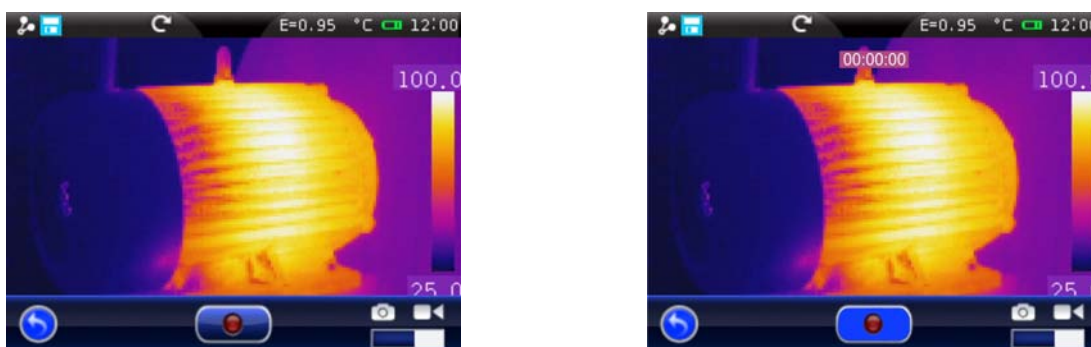

Fig. 64: IR video recording
1. Touch the icon “” in the general menu and move the icon “” to the right. The following screen appears (see Fig. 64 – Left side):
3. Touch the icon “” to start recording the IR video. The icon becomes “” and the indication of the duration of the video indicated in “HH:MM:SS” appears in the upper part of the display (see Fig. 64 – Right side).